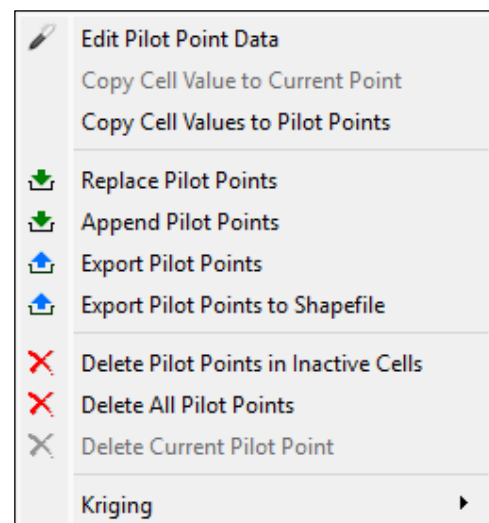

Figure 28. The Pilot Point menu
- Right-click anywhere on the Map Viewer to display the Pilot Point menu (Figure 28).
2. Right-click anywhere on the Map Viewer to open the Pilot Point menu (Figure 28).
- Right-click anywhere on the Map Viewer to open the Pilot Point menu (Figure 28).
- Right-click directly on the pilot point you want to delete to open the Pilot Point menu (Figure 28).
- In the Map Viewer, right-click the target pilot point to display the Pilot Point menu (Figure 28).
- Right-click anywhere in the Map Viewer to open the Pilot Point menu (Figure 28).
- Right-click directly on the pilot point to display the Pilot Point menu (Figure 28).
To open the Kriging Parameters dialog box, right-click in the Map Viewer and select *Kriging > Edit Parameters* from the Pilot Point menu (Figure 28). All parameters entered in this dialog box apply specifically to the current hydraulic property and current model layer. You can apply these parameters to all model layers by clicking **Apply to All Layers** in this dialog box.